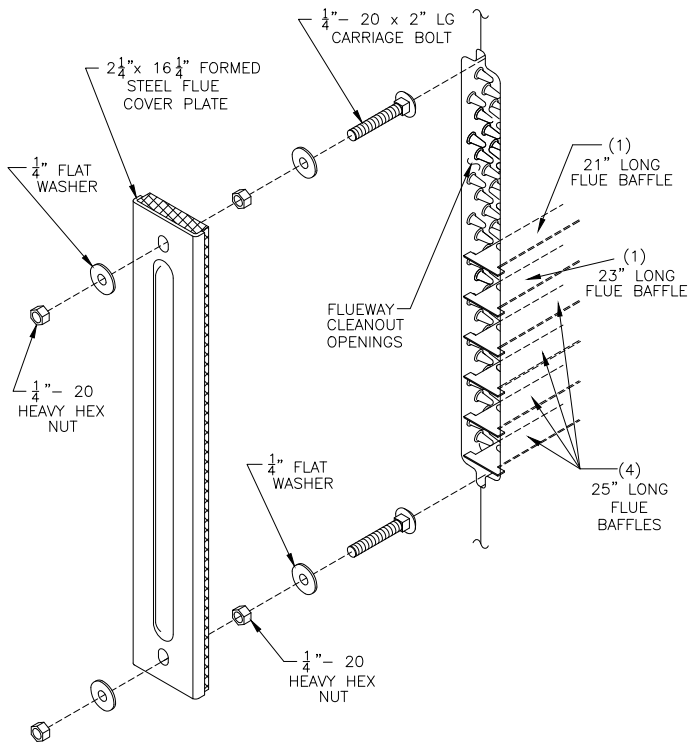

Figure 16: Flue Cover Plate Attachment
over cleanout openings on left side of boiler as shown in Figure 16.
1. Locate the flue baffle carton. Each flue opening will get four (4) 25" baffles, one (1) 23" baffle, and one (1) 21" baffle.
3. Insert the next 25" baffle two (2) pin rows up from the first 25" baffle.
4. Insert the remaining two (2) 25" baffles, continuing up on every second pin row.
5. Insert the 23" baffle and 21" baffle, continuing up on every second pin row with the 21" baffle being the last to be inserted. The end result should match Figure 16.
7. Remove insulation from two (2) 3/8" diameter holes in flue cover plates using a 3/8" drill bit. Rotate bit through insulation by hand.